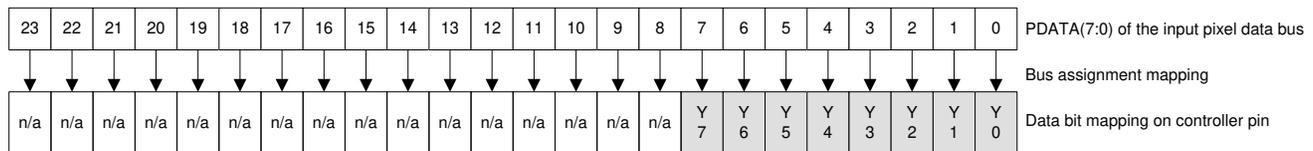

Figure 5-9. BT.656 Interface Mode Bit Mapping
- Calculate clock jitter (in ns) using this formula: $Jitter = [1 / f_{clock} - 5.76ns]$. Clock jitter must maintain setup and hold times. BT.656 data bits must be mapped to the DLPC3470 PDATA bus as shown in Figure 5-9 shows BT.656 bus mode YCbCr 4:2:2 source PDATA (23:0) mapping.
- The BT.656 interface accepts 8 bits per color, 4:2:2 YCbCr data encoded per the industry standard through PDATA(7:0) on the active edge of PCLK. See Figure 5-9.